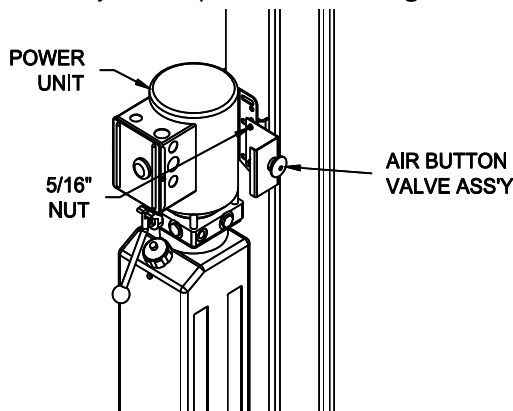

Fig 11 – Air Button & Power Unit Mounting
- 25) Install the power unit and the air button valve assembly on the power column, **Fig 11**.